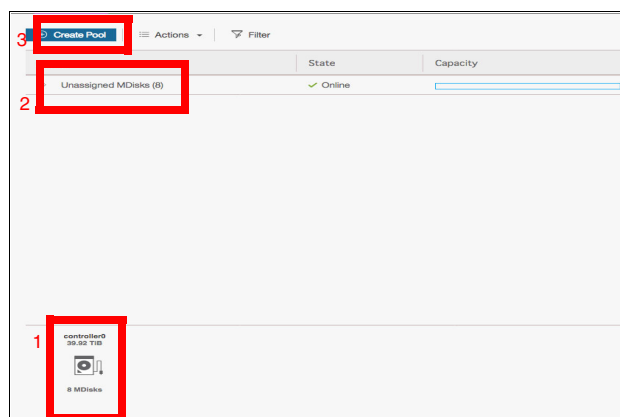

Figure 4-48 Create the Pool
2. The main display changes to the MDisk by Pool display similar to Figure 4-48. In this example the system already recognized the storage mapped as indicated by 1 and 2. Create the pool by selecting **Create Pool 3**.